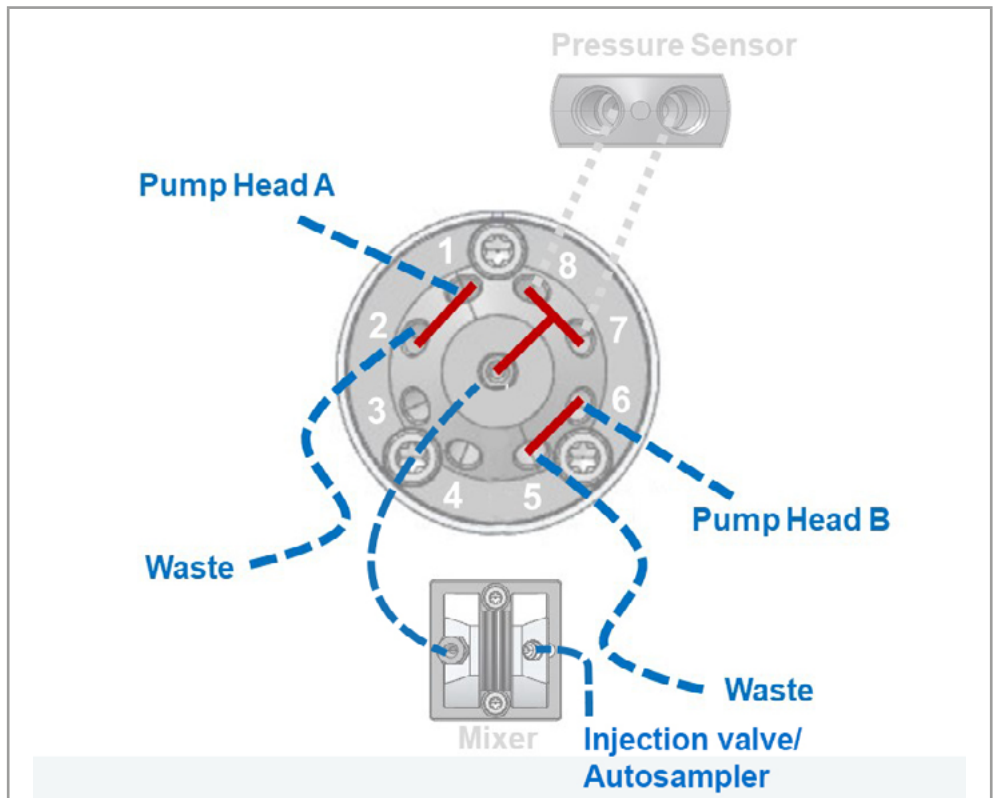

Fig. 16: Valve position Start/Purge
After the start, the purge valve allows the pump automatically to flush without manual intervention, e. g. to remove air from the suction tube. The flow paths during flushing are shown in Fig. 16.
3. Connect the pressure sensor with the two capillaries on the positions 7 and 8 of the purge valve (Fig. 16).